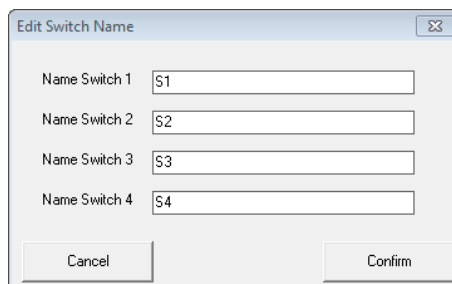

Fig. 37 Window "Edit Switch Name"
1) Click the button "Edit Switch Name". The dialog window "Edit Switch Name" is displayed (fig. 37).